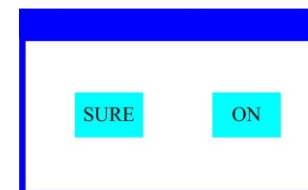

Figure 5 Dialog of confirm
- When the parameter is a key item, chik corresponding item, a dialog shown in Figure 5 will been popup ask for the confirm. Chik ' sure' to confirm.